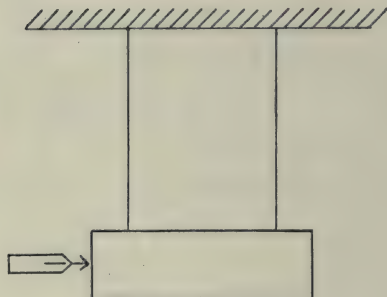

Fig. 92.
**Example (9).** *In a ballistic pendulum, for estimating the velocity of rifle bullets, a block of wood weighing 10 lbs. was suspended by two parallel strings as shewn in fig. 92. When a bullet weighing 0.4 oz. was fired into the block in a horizontal direction, passing through the centre of gravity of the block, it was observed that the block rose 6.95 inches. Find the velocity of the bullet.*